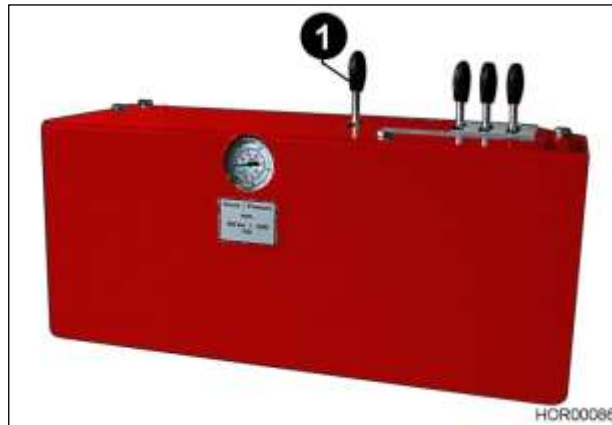

Bild 19 Control panel, positioning the left frame section
- Use the lever (Bild 19/1) to move the left frame section to the tyre until the inner heating plate rests against the area to be repaired, and then lock into place using safety bolts.